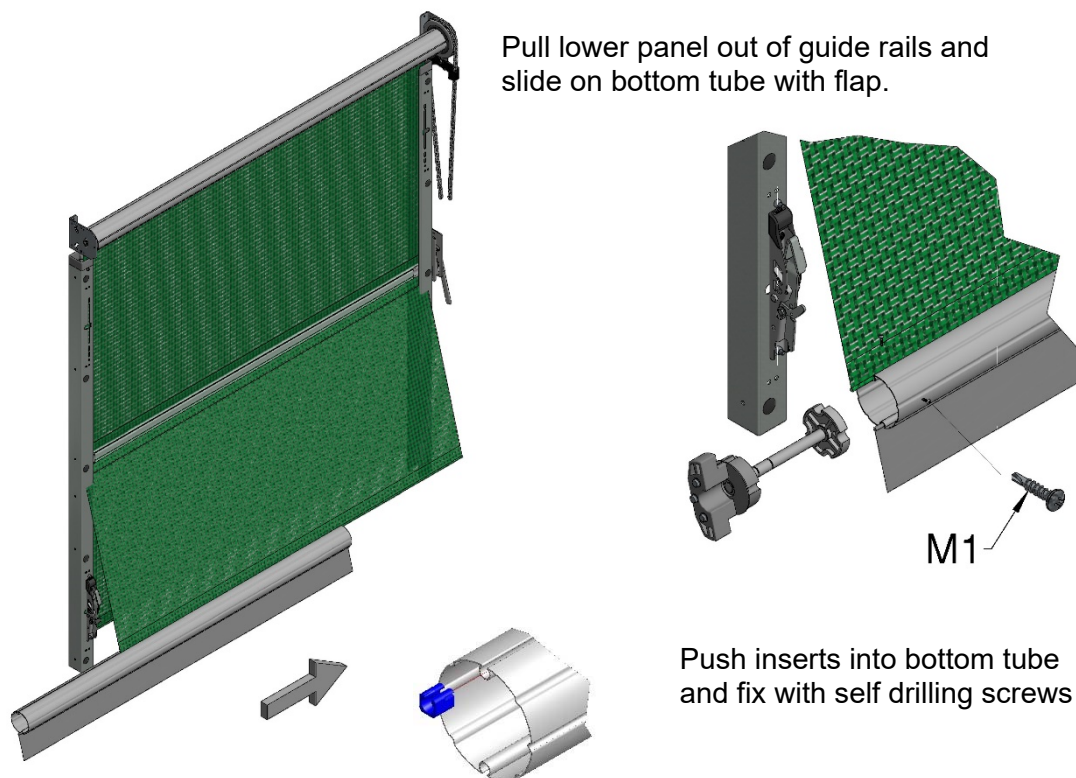
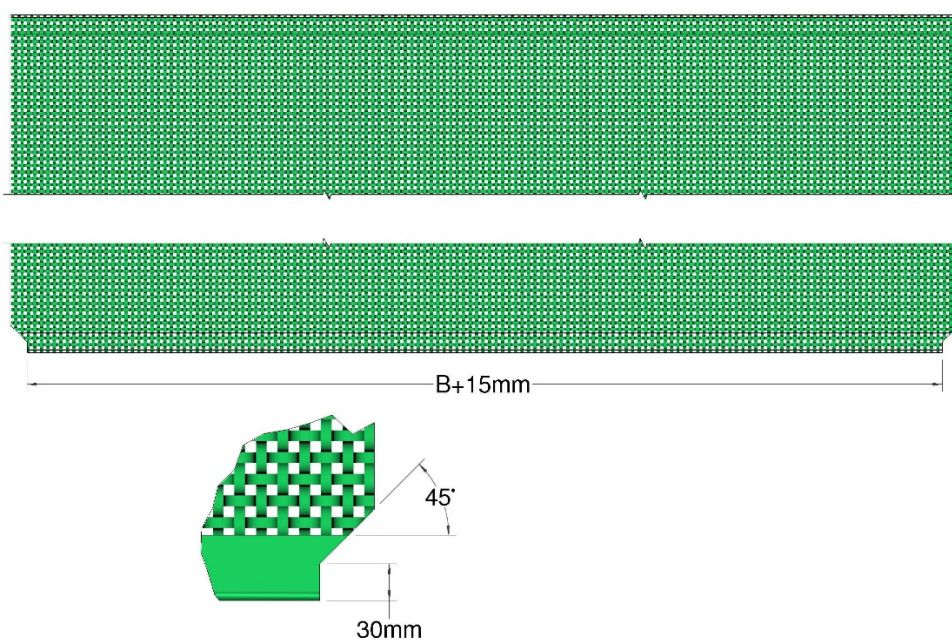

Figure 18a, Attaching Bottom Tube
Figure 18b, Trimming Sheet
- Untie the top tube assembly and lower the door. Pull the lower panel outside the guide rails and slide on the bottom tube, Figure 18a, and trim fabric as shown in Figure 18b. Push the inserts (K1) into the tube and fix using the M4x19mm self-drilling screws supplied (M1).